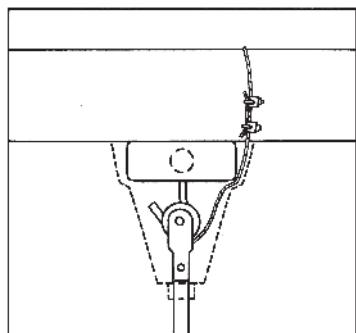

Figure 3
9. This fan is equipped with the required "secondary support" cable. This cable must be affixed to the beam structures and securely clamped in such a manner to support the weight of the fan in the event the mounting hook or other parts fail. After wrapping cable around a structural member that will support 300 lbs., secure cable with supplied cable clamps as illustrated in Figure 3. (Note: Any additional materials needed for specific installations may be purchased from your local distributor.)
**IMPORTANT CAUTION:** The safety cable must not be placed between the rubber roller and hook but as illustrated in Figure 3.
10. When hanging fan on factory supplied "J" hook, make sure cable at top of rod is positioned behind "J" hook as illustrated in Figure 3.